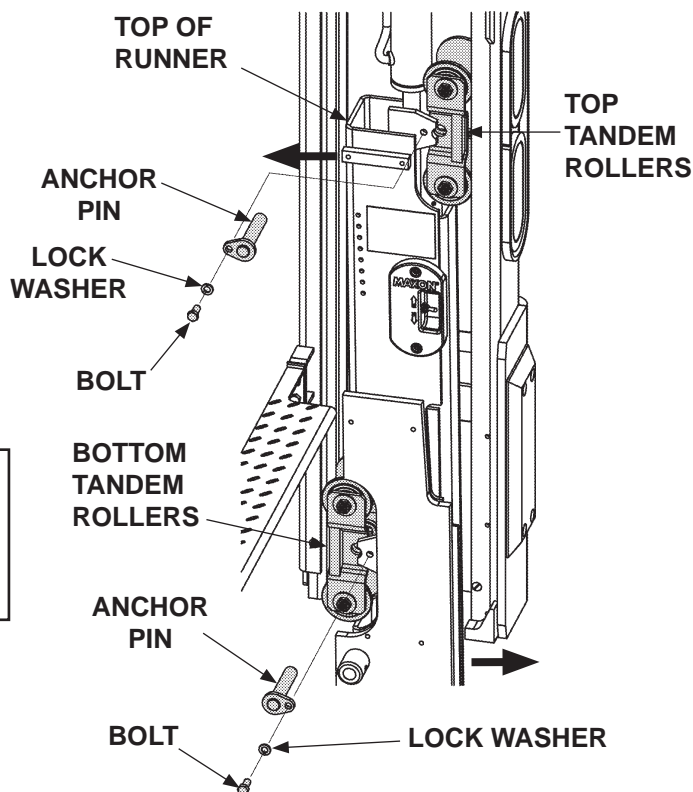

FIG. 30-1
12. If Liftgate is equipped with tandem rollers, unbolt the anchor pin from the tandem roller at the top of runner (**FIG. 30-1**). Next, move top of runner toward vehicle body for enough clearance to remove tandem rollers. Then, remove the tandem rollers (**FIG. 30-1**).
13. For the tandem rollers at the bottom of runner, unbolt the anchor pin (**FIG. 30-1**). Next, move bottom of runner away from vehicle body for enough clearance to remove tandem rollers. Then, remove the tandem rollers (**FIG. 30-1**).